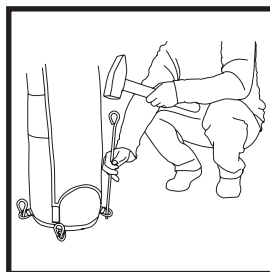

Fig. 5
8. Anchor the tent to the ground by inserting spike into the rings at the base (Fig. 5).